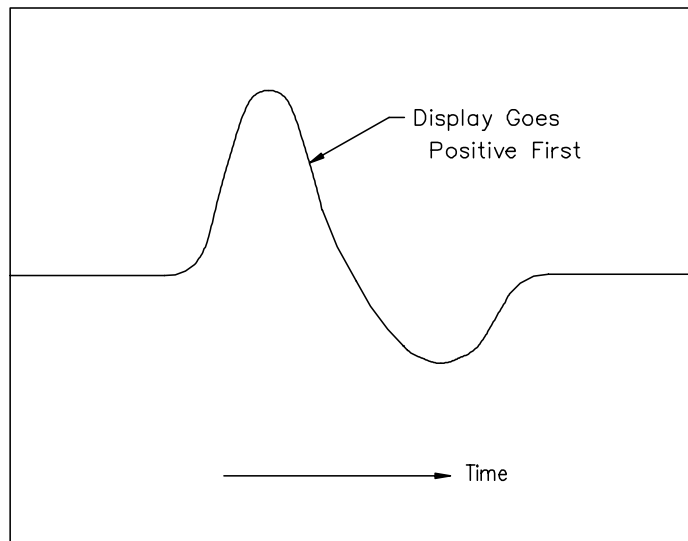

Figure 3-1 Polarity Check Oscilloscope Display
Step 3: Hold the transducer in hand and tap the bottom. Observe that the waveform on the oscilloscope first goes positive as shown in Figure 3-1. If the wave form goes negative first, contact the nearest Bently Nevada office for assistance.